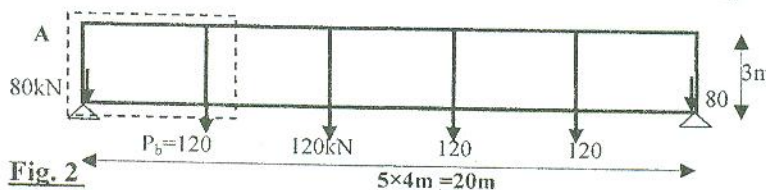

Fig. 2
B. Fig. 2 shows a Vierendeel girder of span 20m. It is required to carry out the following: Draw B.M., S.F. and N.F. diagrams of the V.G under the given loads. Draw the shape of reinforcement of the part marked (A). (9 marks)